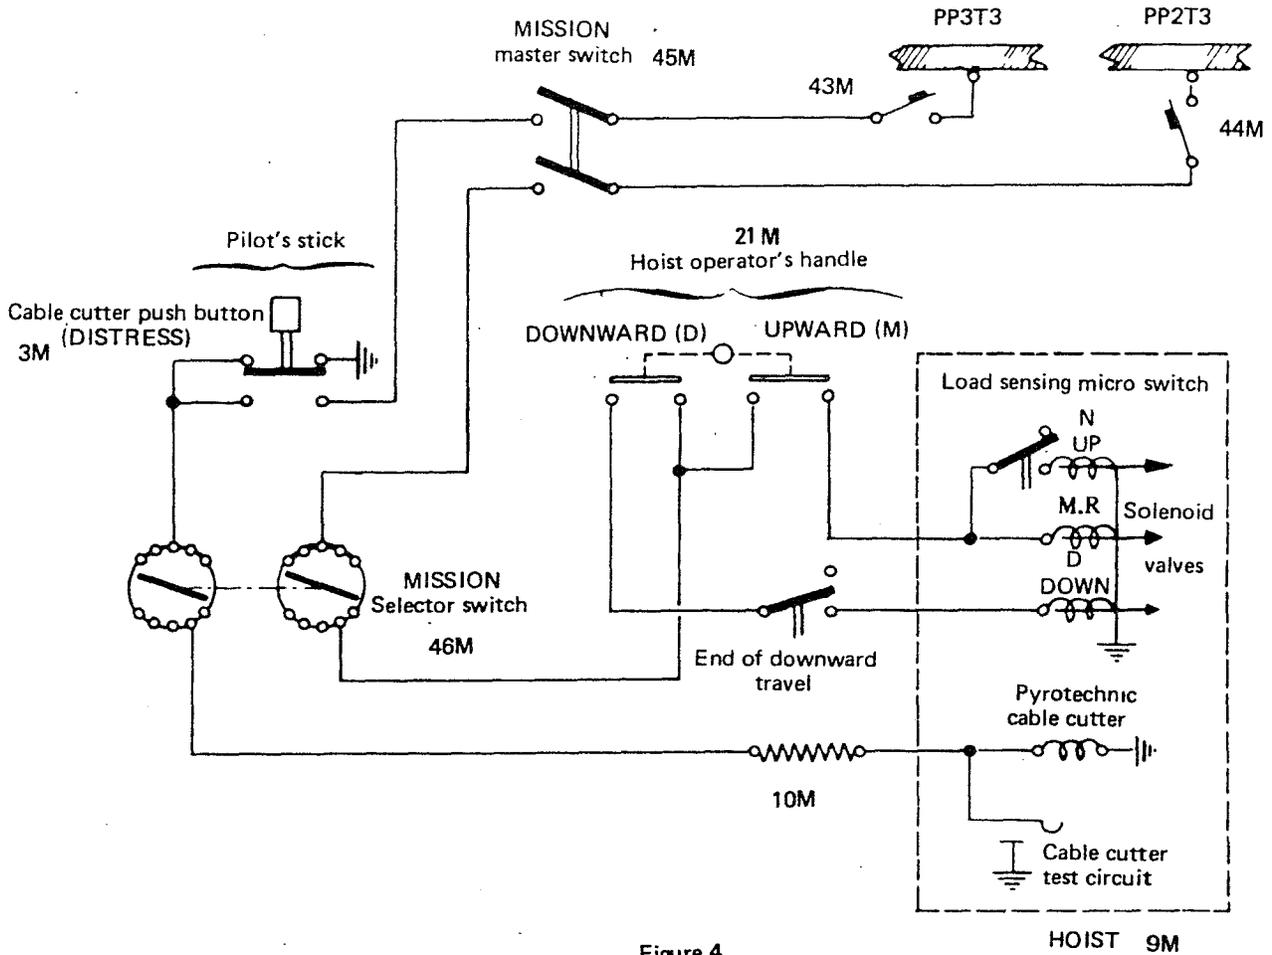

Figure 4
13.10.4. - HOIST CONTROL ELECTRICAL SYSTEM (Figure 4 )